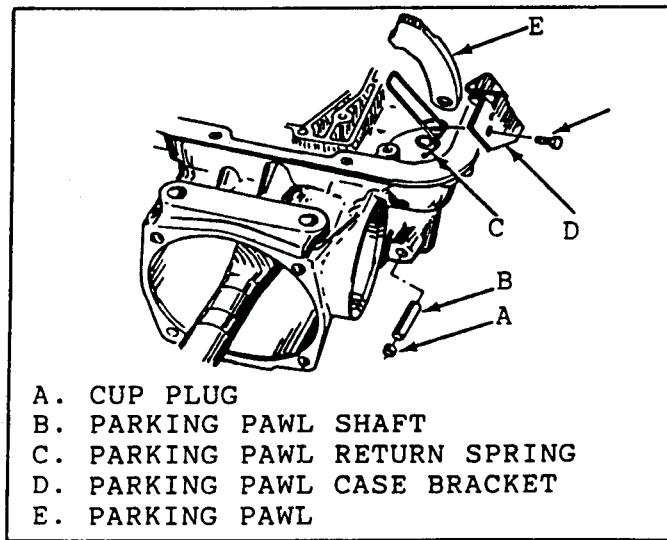

Figure 70
2. Remove parking pawl shaft cup plug from case with #4 screw extractor. See Figure 70.